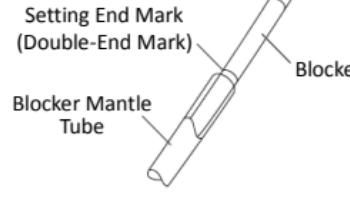

Fig.2
- When pushing the blocker tip out of the endotracheal tube pocket, be sure to grip the blocker shaft near the blocker mantle tube (the area between the setting end mark and the first depth marking, as shown in Fig.2). Otherwise it may kink or break the blocker shaft.